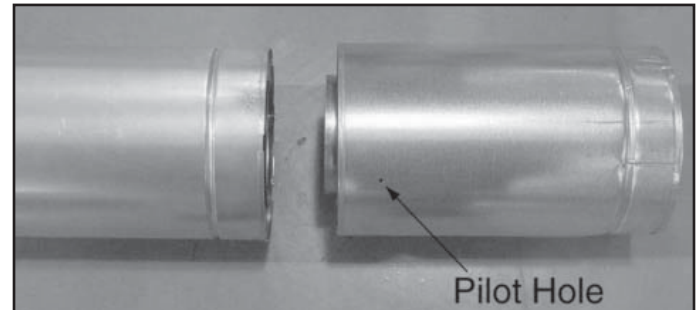

Figure 10.6 Slip Section Pilot Holes
- Slide the inner flue of the slip section into the inner flue of the pipe section and the outer flue of the slip section over the outer flue of the pipe section. See Figure 10.6.